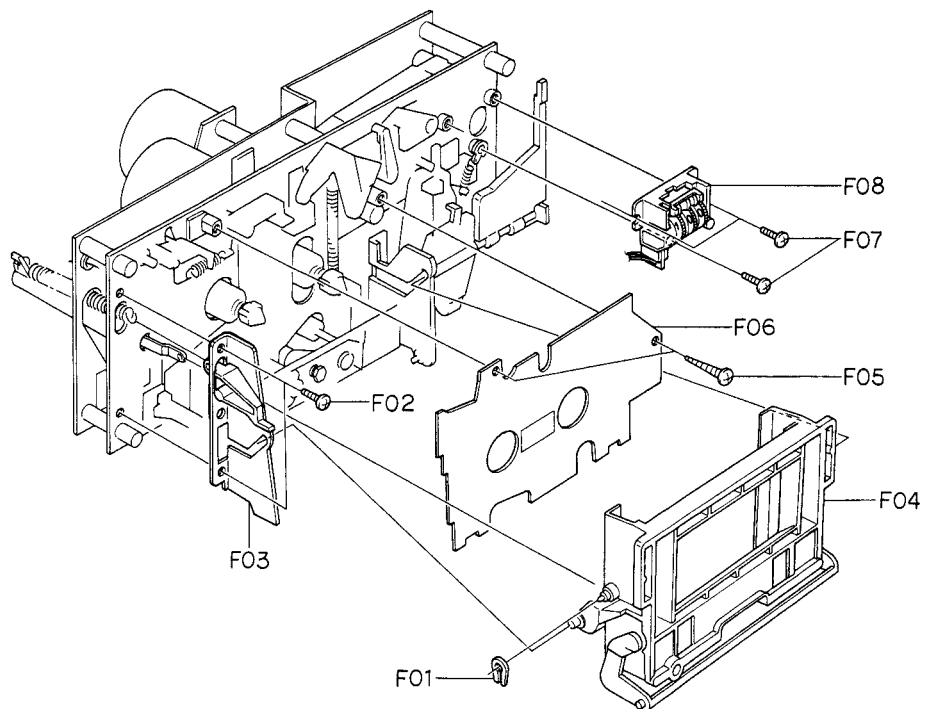

Fig. 2.5
Refer to Fig. 2.5.
- (1) Refer to Fig. 2.5. Remove Cassette Case Ass'y referring to item 2.15.
- (2) Remove F01, then disassemble F02 (Head Mount Base Ass'y).